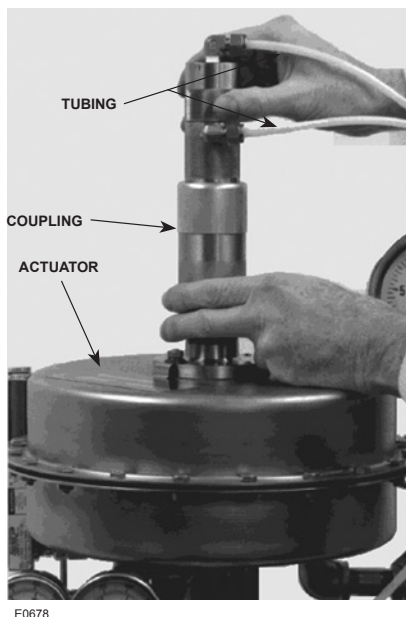

Figure 6. Unthreading the Adjusting Coupling
1. Disconnect the tubing from the depad pilot valve (See Figure 6).